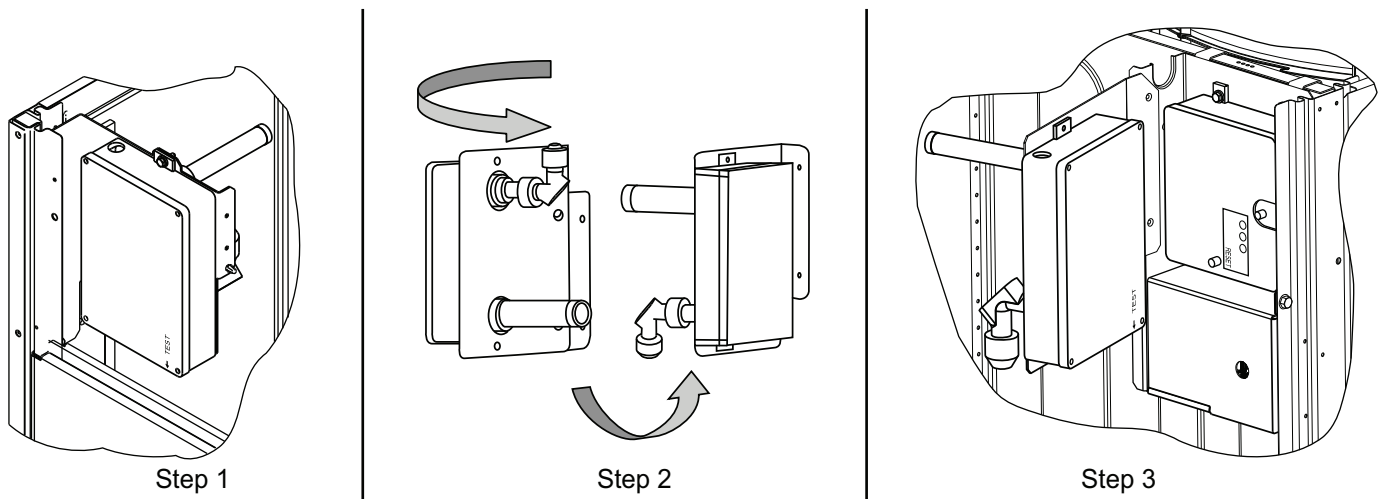

Fig. 73 — Completing Installation of Return Air Smoke Sensor
1. Unscrew the 2 screws holding the return air smoke detector assembly. See Fig. 73, Step 1. Save the screws.
2. Turn the assembly 90 degrees and then rotate end to end. Make sure that the elbow fitting is pointing down. See Fig. 73, Step 2.
3. Screw the sensor and detector plate into its operating position using screws from Step 1. See Fig. 73, Step 3.